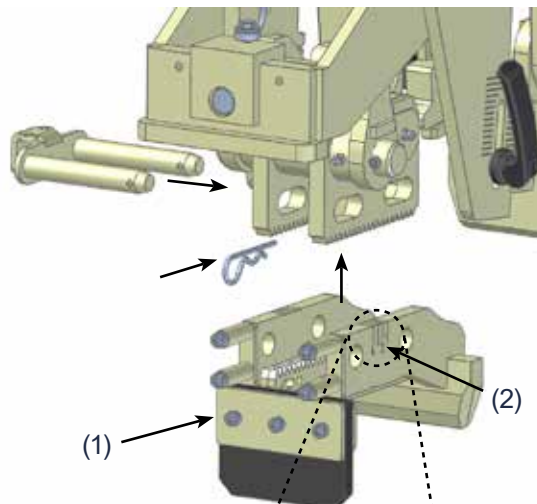

Fig 78.
1. Install the de-clipping shoe (1) in the right position for the current clip assembly. The current position can be determined using the scale on the side of the shoe (2), Fig 78.